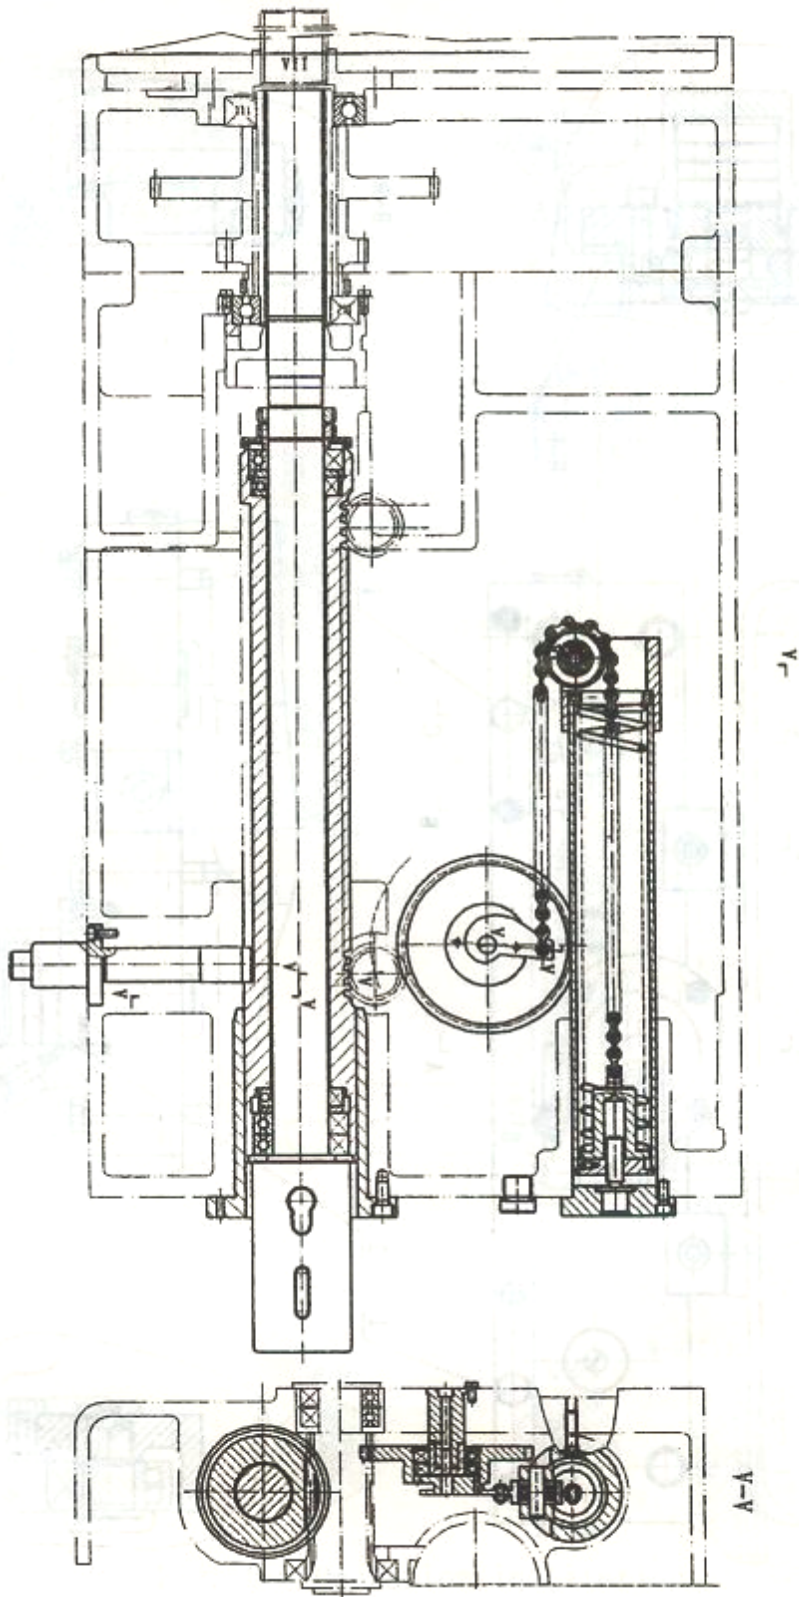

Fig. 10-8 Spindle balance mechanism
(4) adjustment of balance strength of spindle (fig.10-8)